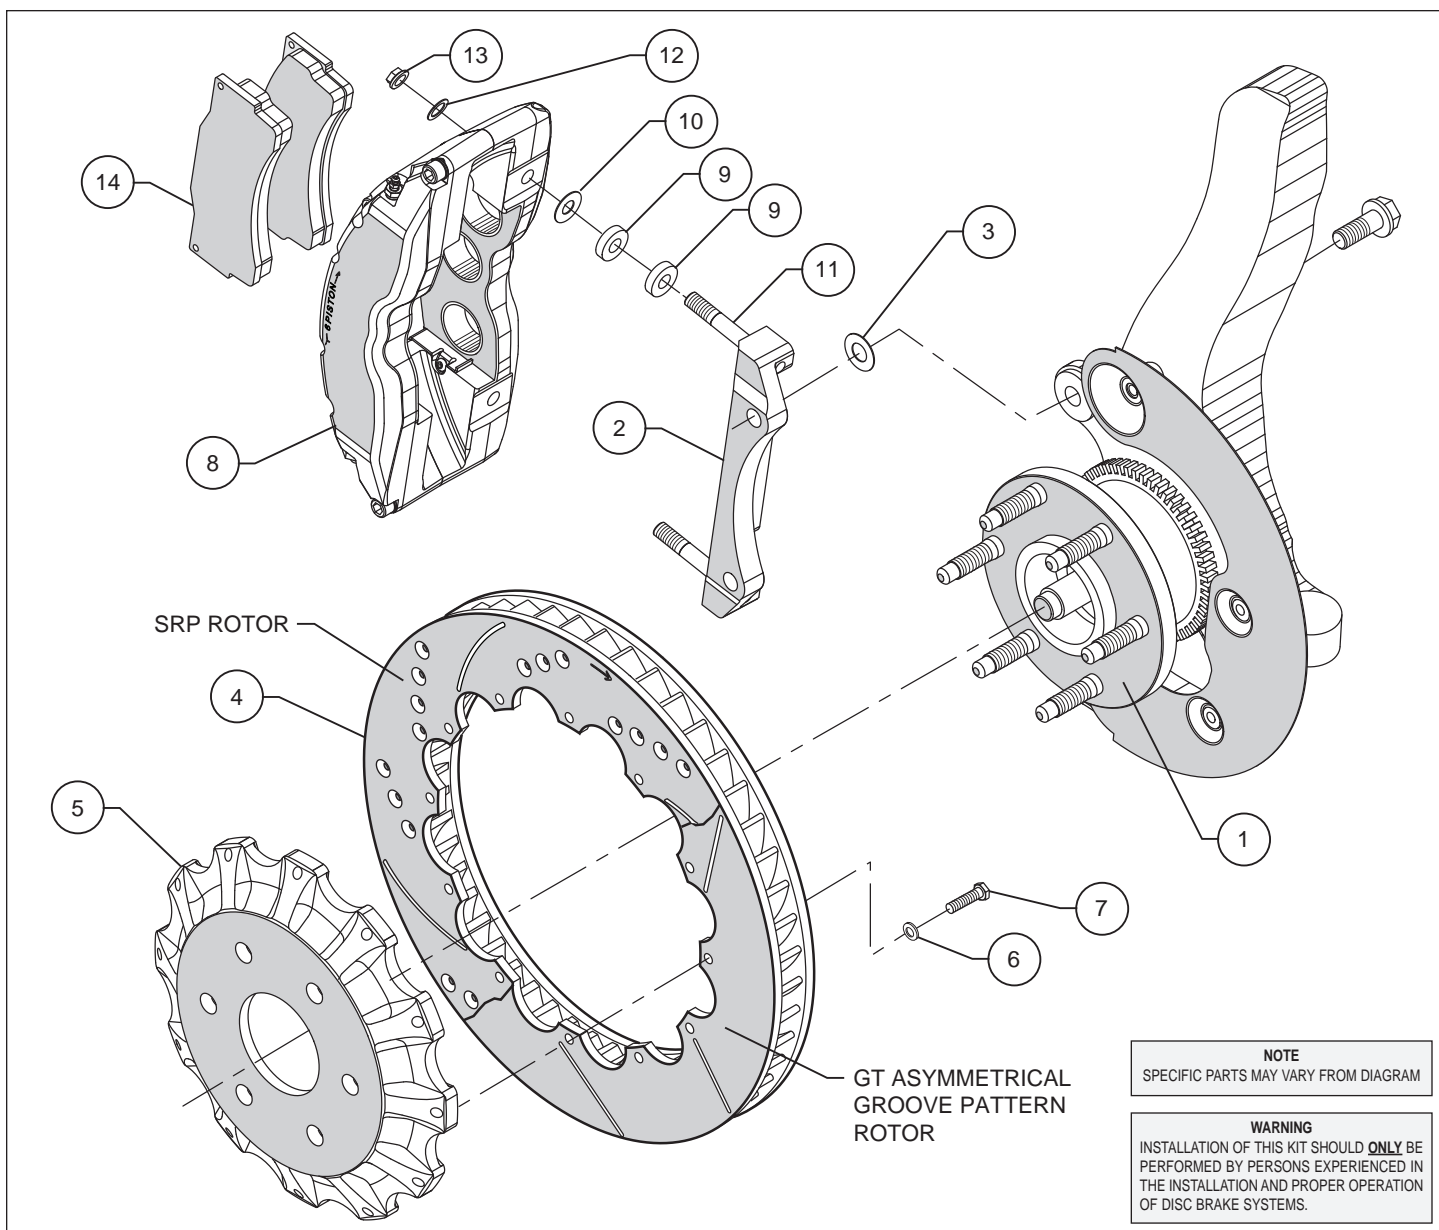

Figure 1. Typical Installation Configuration
- Slide the new hub assembly (1) into place and secure with original hub nut. Torque to manufacturer's specification.
- The caliper mounting bracket assembly (2) should be installed first with clean, dry threads on the mounting bolts. Install the bracket from the outboard side of the spindle by sliding the stock bolt through from the backside. Place shim washer (3) between the bracket (2) and the spindle (see Figure 1). The bracket must tighten squarely against the side of the spindle body. Inspect for interference from casting irregularities, machining ridges, burrs, etc. Use one thin shim (3) between the bracket (2) and spindle during initial trial fitting.